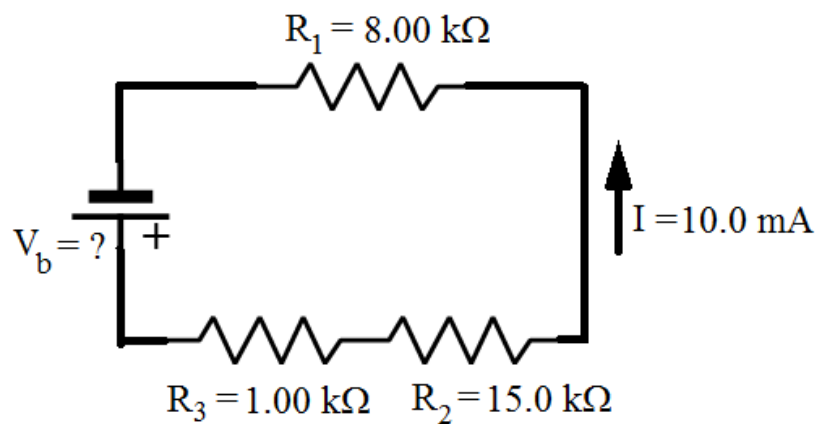

Figure 1.11: Kirchhoff's Loop Rule
- Kirchhoff's loop rule says that the sum of the potential differences of all the sources around a loop (within a circuit) equals the sum of all the voltage drops across all the resistors in the loop. This rule is shown in Figure 1.11.